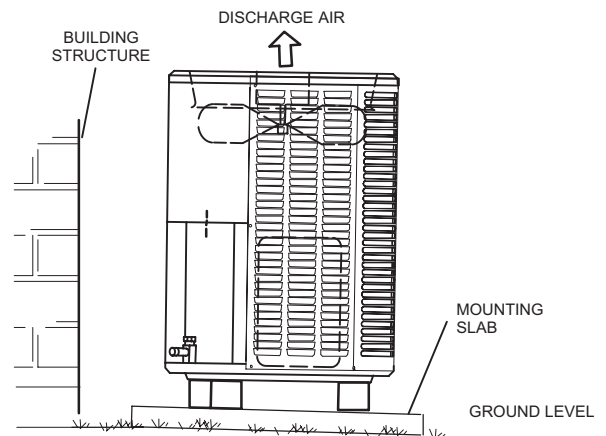

FIGURE 4. Placement and Slab Mounting
- When possible, do not install the unit directly outside a window. Glass has a very high level of sound transmission. For proper placement of unit in relation to a window see the provided illustration in figure 4, detail A.
The slab should have a slope tolerance as described in figure 4, detail B.
NOTE – If necessary for stability, anchor unit to slab as described in figure 4, detail B.